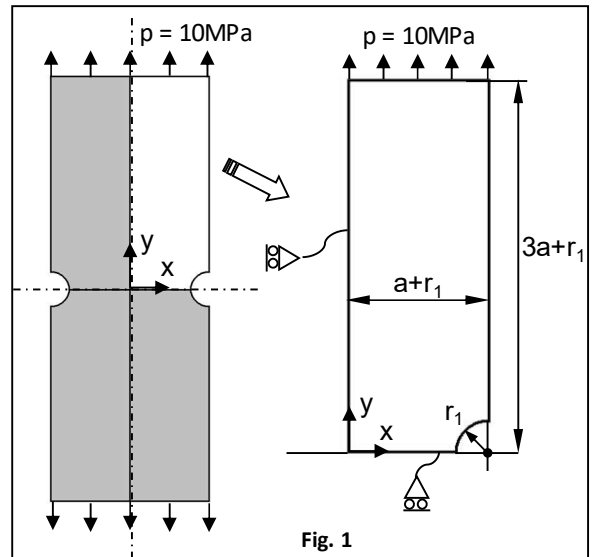

Fig. 1
1. Geometry of a quarter model of a thin plate with the notch r_1 (Fig. 1):